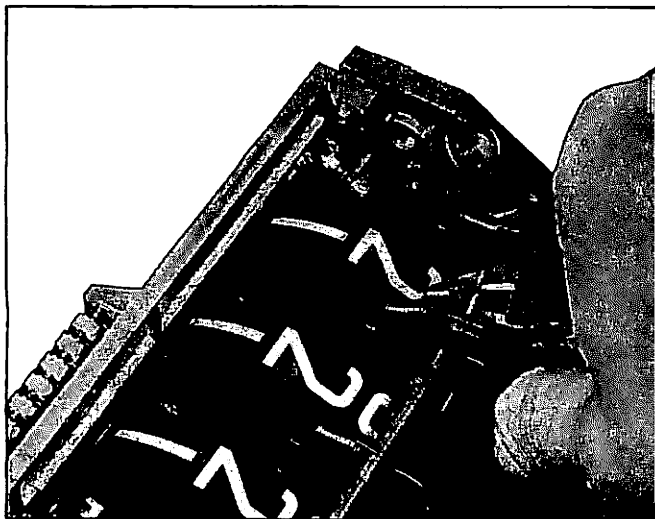

Figure 24. Anti-Topping Finger Spring Installation.
- b. Install the five anti-topping finger springs between the anti-topping fingers and the stop shaft. See Figure 24.